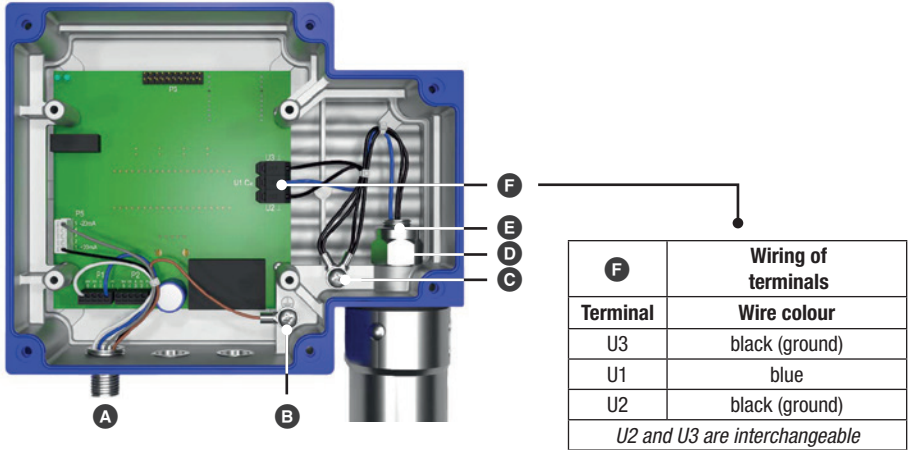

Fig. 8
10. Reconnect the electrode wiring to the PCB, see table in **Fig. 8**.